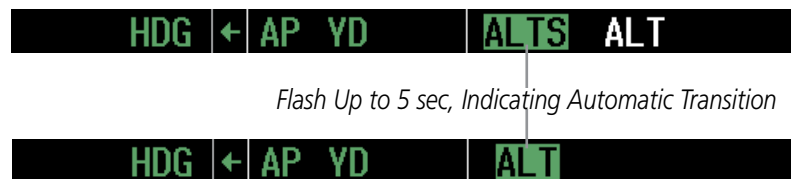

Figure 7-8 Automatic Mode Transitions During Altitude Capture
As the aircraft nears the Selected Altitude, the flight director automatically transitions to Selected Altitude Capture Mode with Altitude Hold Mode armed (Figure 7-8). This automatic transition is indicated by the green 'ALTS' annunciation flashing for up to 5 seconds and the appearance of the white 'ALT' annunciation.
- Selected Altitude Capture (see Figure 7-8)